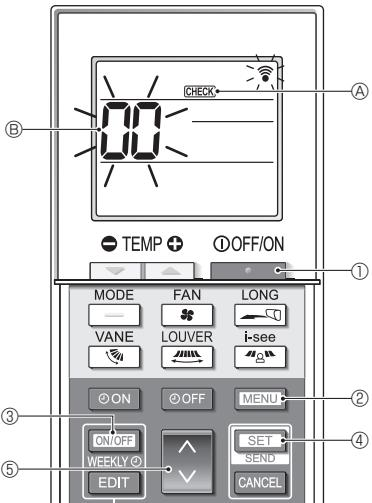

Fig. 7-6
■ Self-check (Fig. 7-6)
- Press the button ① to stop the air conditioner.
- If the weekly timer is enabled (is on), press the button ③ to disable it (is off).
- Press the button ② for 5 seconds.
- ④ comes on and the unit enters the self-check mode.
- Press the button ⑤ to select the refrigerant address (M-NET address) ⑥ of the indoor unit for which you want to perform the self-check.
- Press the button ④.
- Press the button ①.
- ④ and the refrigerant address (M-NET address) ⑥ go off and the self-check is completed.